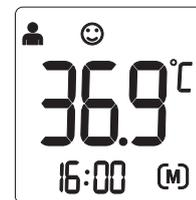

Figure 6
2. The thermometer will automatically memorize the last 30 temperature readings. Each memory also records the measurement date/time/mode icon. Each time the **⏻** *BUTTON* is pressed, the screen displays past readings that correspond with a number 1-30. The number 1 reflects the most recent reading, while the number 30 reveals the oldest reading stored in memory. (See Figure 6)